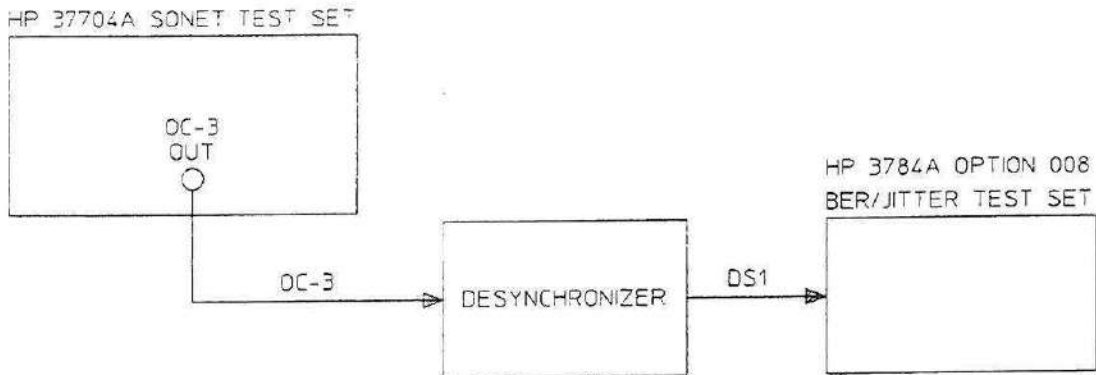

Figure 2-6. Desynchronizer Stress
1. Connect the HP 37704A and the HP 3784A to the network equipment, as shown in Figure 2-6, and set up the **TRANSMIT** SETTINGS display as shown below.